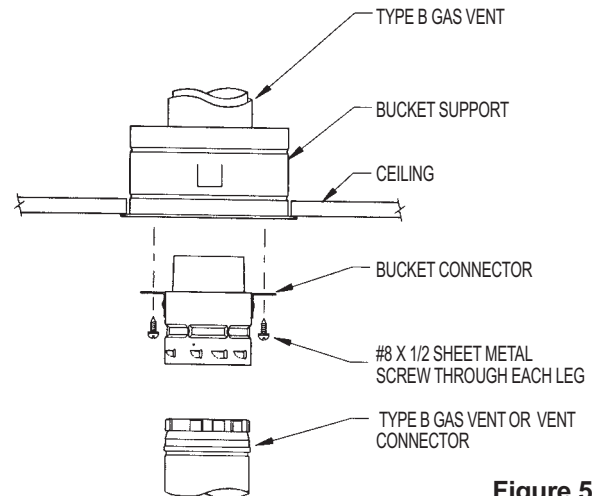

Figure 5
- The Bucket Connector is installed by positioning it against the bottom of the Bucket, as shown in **Figure 5**, with the mounting tabs against the bottom of the bucket.